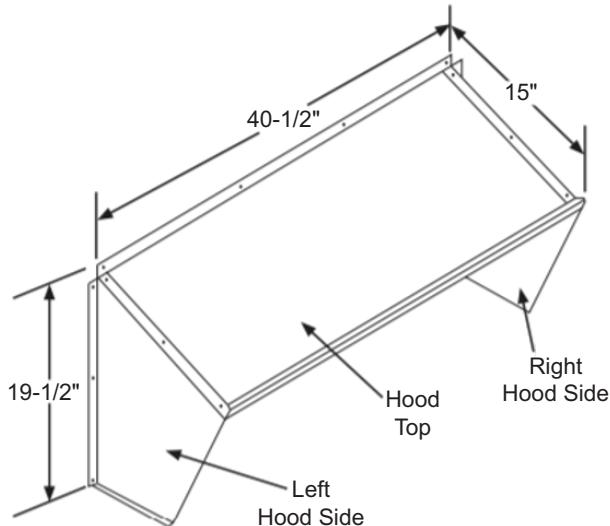

Fig. 36 — CRBARDH001A00 Hood Sides and Top
5. Using the provided hardware, screw the CRBARDH001A00 hood sides and top together (see Fig. 36).